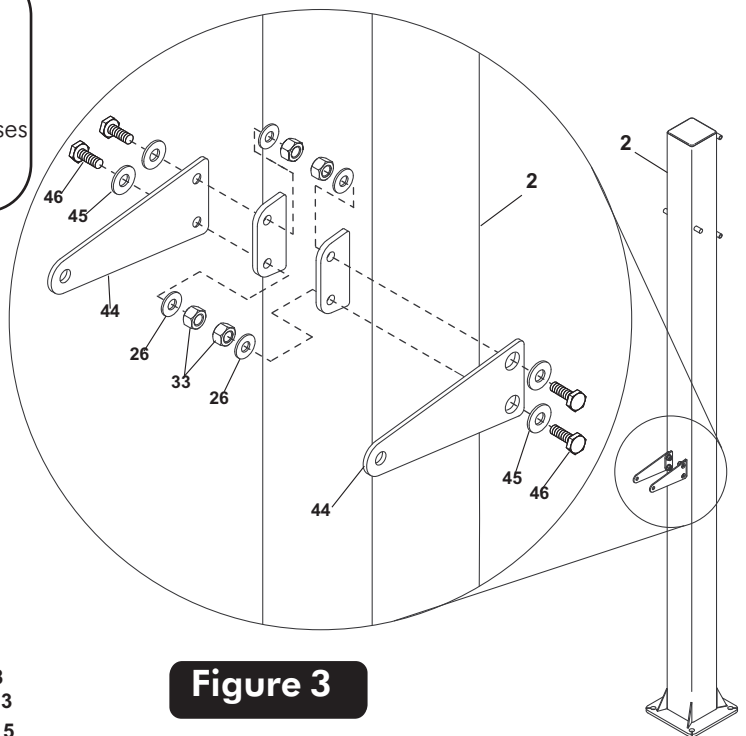

Figure 3
1. Attach Post Brackets (#44) to outside of brackets on back of Post Assembly (#2). Secure with two Hex Head Bolts (#46), two Flat Washers (#26), two Wide Flat Head Washers (#45) and two Locknuts (#33) in each Bracket (#44). See Figure 3. **Note:** Wide Washers (#45) go in between the Post Ears and Bolts (#46).